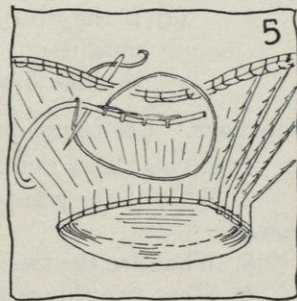

FIG. 5.
- c. Buttonhole the stiff frame wire on top of all the ribbon wires with a 3-inch lap of the wire at direct back (see Figure 5).